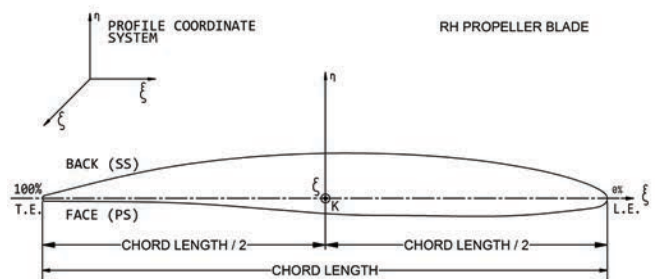

Figure 3: Unwrapped (2D) Propeller Blade Section
The designer will take that section and “unwrap” it to get a two-dimensional shape (Figure 3). That 2D shape will look very much like a cross-section of an aircraft wing. Once they apply their lifting surface theories and modern calculation techniques, the resulting shape is divided into sections. One reference line called the chord line, or pitch helix, runs longitudinally, while a series of perpendicular lines cross the two blade surfaces – one being the face or pressure side (PS), the other being the back or suction side (SS). If the reference zero is on the chord line, the \pm distances of the two faces are the data found on the propeller drawing offset table.